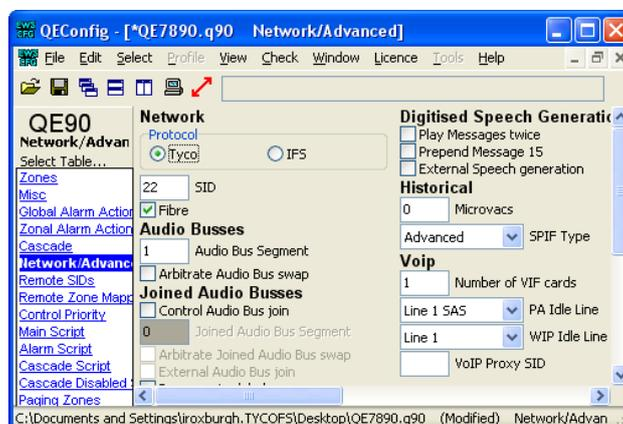

Figure 9 – QE90 Network / Advanced Configuration
See Figure 9 below for an example of the programming of the number of VIF cards.
See Figure 9 below for an example of the programming of the “Idle Lines”.
- Panels on a copper segment (other than the one that connects directly to IP) need to have the SID number of the panel that does connect directly to IP programmed in their “VoIP Proxy SID” field (note: VoIP Proxy in this context does not refer to the functionality present within the PIB). Additionally, the “Number of VIF Cards” must be set to 0, and “PA Idle Line” and “WIP Idle Line” must be set to “VoIP not used”. Refer to Figure 9 below for the location of these settings.